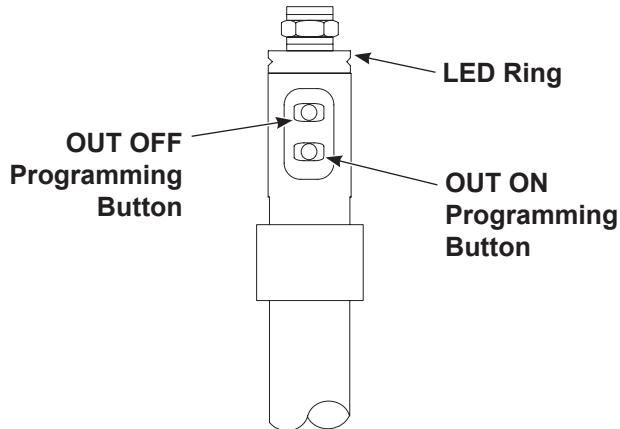

Figure 4-3 Programming the Two Button Level Sensor Probe
3. See Figure 4-3. Press the OUT OFF programming button until the LED ring slowly flashes yellow.
2. See Figure 4-3. Press the OUT ON programming button until the LED ring switches from flashing slowly to flashing quickly.